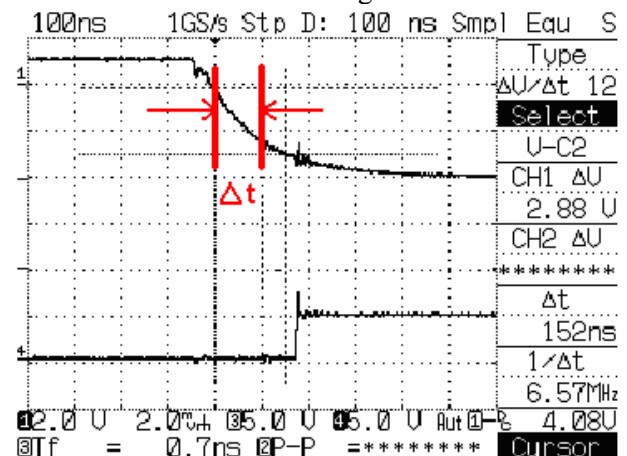

Fig.12
Step 7: Timing adjustment. The Timing adjustment should be performed under light load circumstance. A variable resistor, 0~100K $\Omega$ , is connected from Timing pin to VDD and adjust the variable resistor. Changing the resistor value will change dv/dt slope. This resistor value normally is from 8Kohm to 20Kohm. The typical relation between resistor value and the Delta T is shown in Figure 12.